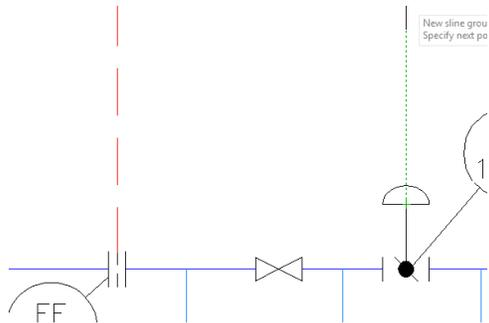

Figure 2-66 Snapping to the midpoint of the control valve
- Move the cursor toward right and click when the cursor snaps to the mid point of the control valve, as shown in Figure 2-66.